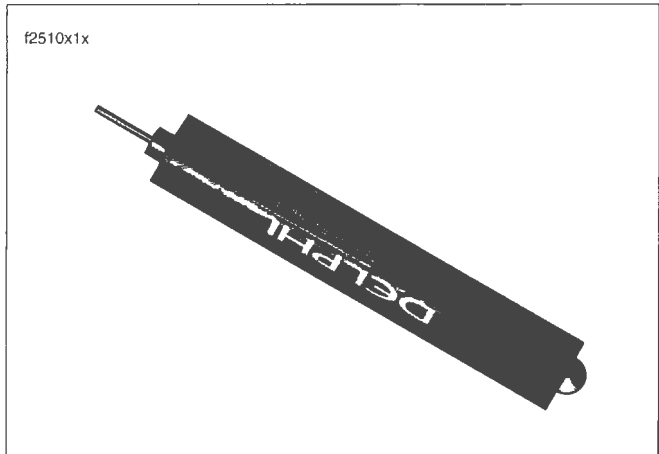
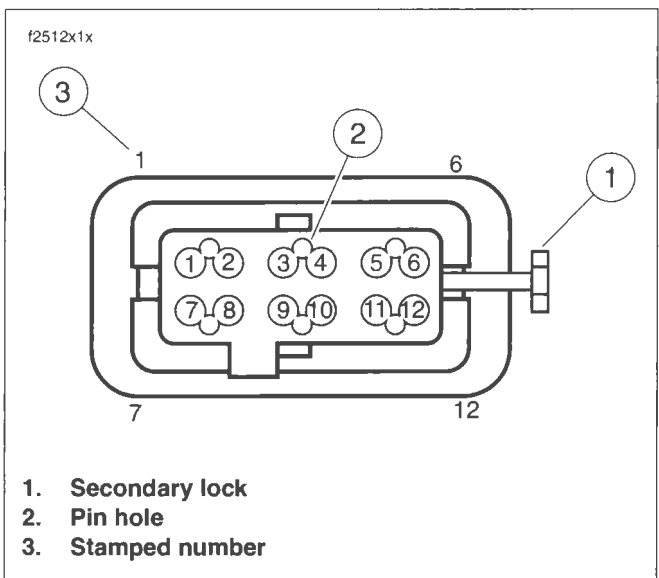

Figure B-44. Packard Micro 64 Terminal Remover (Part No. HD-45928).
Figure B-45. Housing
1. See Figure B-45. Locate the head of the secondary lock (1) on one side of the connector housing.
3. Locate pin hole (2) between terminals on mating end of connector.
4. See Figure B-44. Obtain the PACKARD MICRO 64 TERMINAL REMOVER (HD-45928).
See Figure B-45. For wire location purposes, the corners of the socket housing are stamped (3) with the numbers 1, 6, 7 and 12, representing terminals 1-6 on one side, and 7-12 on the other.